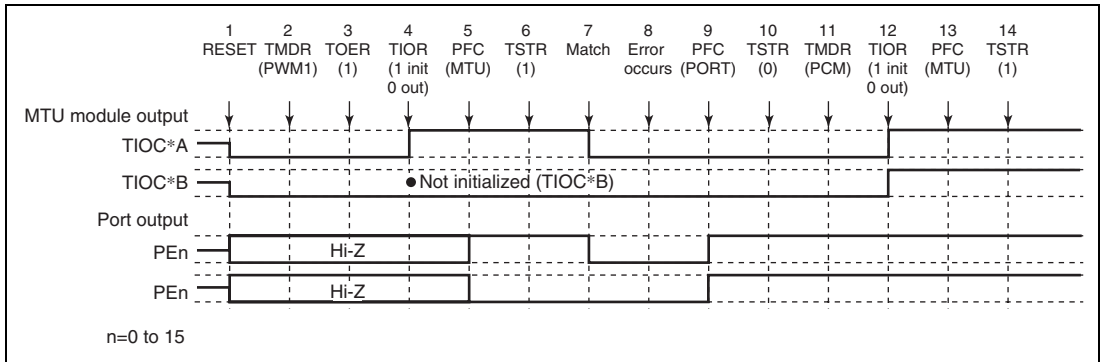

**Figure 11.94 Error Occurrence in PWM Mode 1, Recovery in Phase Counting Mode**
**Operation when Error Occurs during PWM Mode 1 Operation, and Operation is Restarted in Phase Counting Mode:** Figure 11.94 shows an explanatory diagram of the case where an error occurs in PWM mode 1 and operation is restarted in phase counting mode after re-setting.